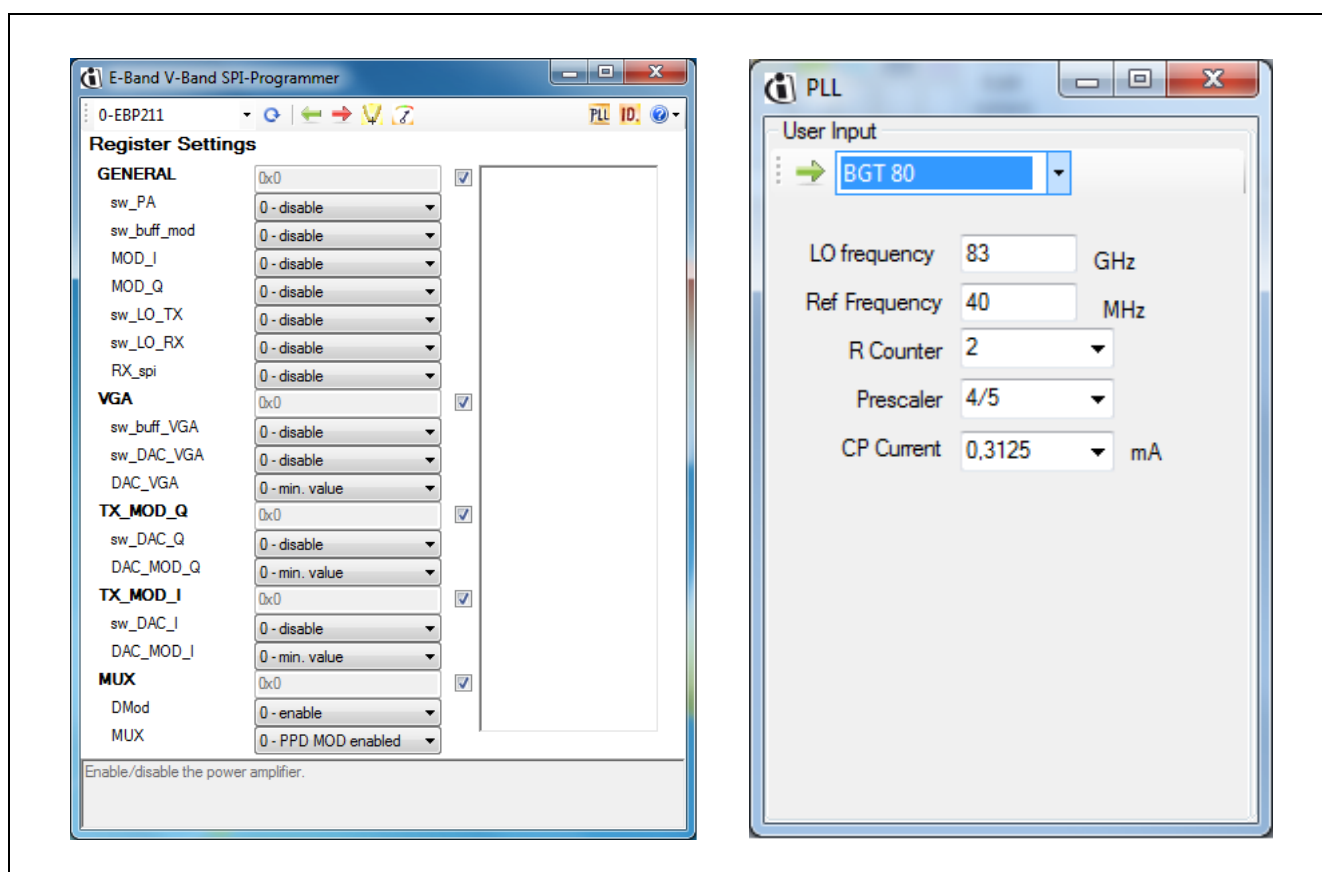

Figure 23 E-Band V-Band SPI-Programmer Main Window and PLL Window
- 2) In the software folder supplied with this transceiver navigate to “E-Band V-Band SPI-Programmer.exe” and double click on it. A window will open as shown in **Figure 23** below.
- 3) Click on the “PLL” button in top right corner of this window. Another window will open which looks like as **Figure 23**.